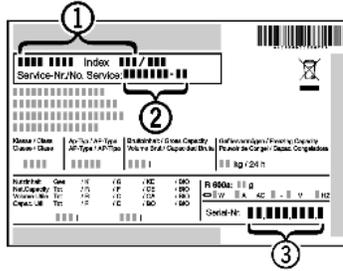

Fig. 20
- ▶ Read the appliance designation *Fig. 20 (1)*, service no. *Fig. 20 (2)* and serial no. *Fig. 20 (3)* from the rating plate. The rating plate is located inside the appliance on the left-hand side.
- ▶ Notify a qualified service provider, specifying the fault, appliance designation *Fig. 20 (1)*, service no. *Fig. 20 (2)* and serial *Fig. 20 (3)* no.